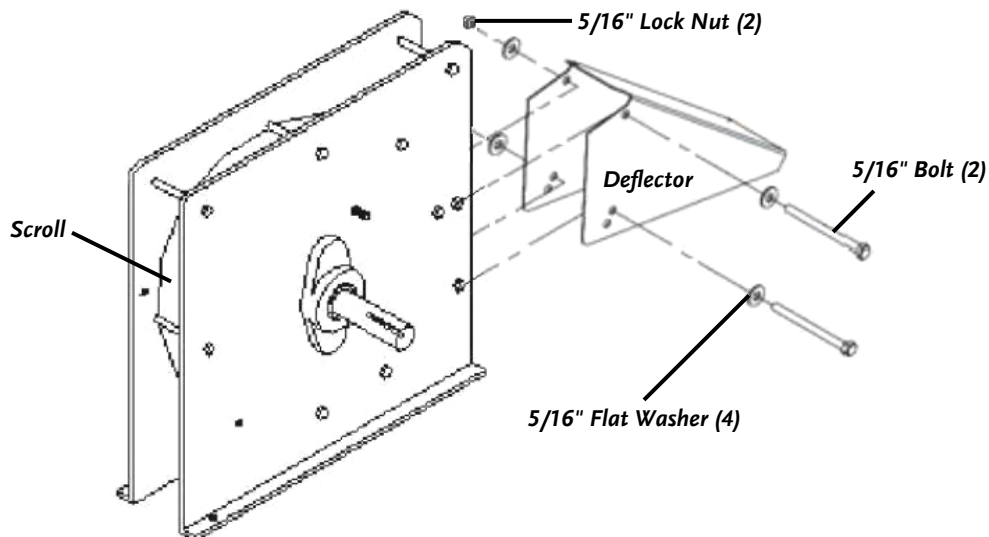

Figure 5
1. Remove any material left in the Chipper Hopper and then remove the Deflector by removing the two (2) 5/16" x 4" Bolts (*Figure 5*).
1. Hold the Deflector (*Figure 5*) in place at the Discharge opening of the Chipper.
2. Place a 5/16" Flat Washer on a 5/16"-18 x 4" Bolt and then slide the Bolt through both the top two (2) holes of the Chipper body and the Deflector.
NOTE: Be certain that the Bolt attaching the Deflector to the Chipper passes through the pipe (tube) welded to the Scroll (*Figure 5*).